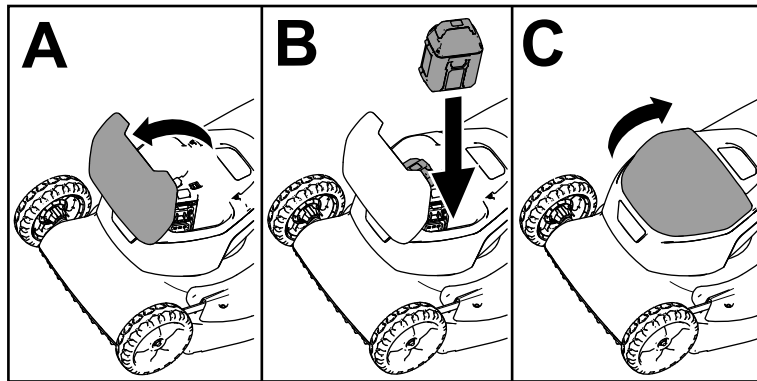

Figure 15
3. Lift up the battery-compartment lid (A of Figure 15).
4. Line up the cavity in the battery pack(s) with the tongues on the machine and slide the battery pack(s) into the compartment until it locks into place (B of Figure 15).
5. Close the battery-compartment lid (C of Figure 15).